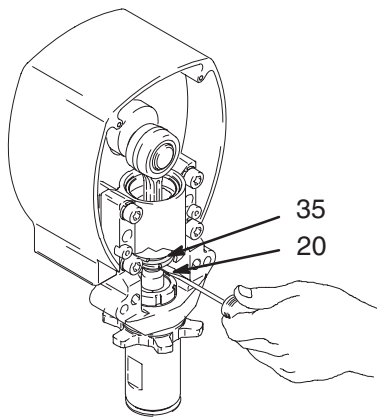

Fig. 21 7674A
3. Fig. 21. Use screwdriver to push retaining spring (35) up and pin (20) out.